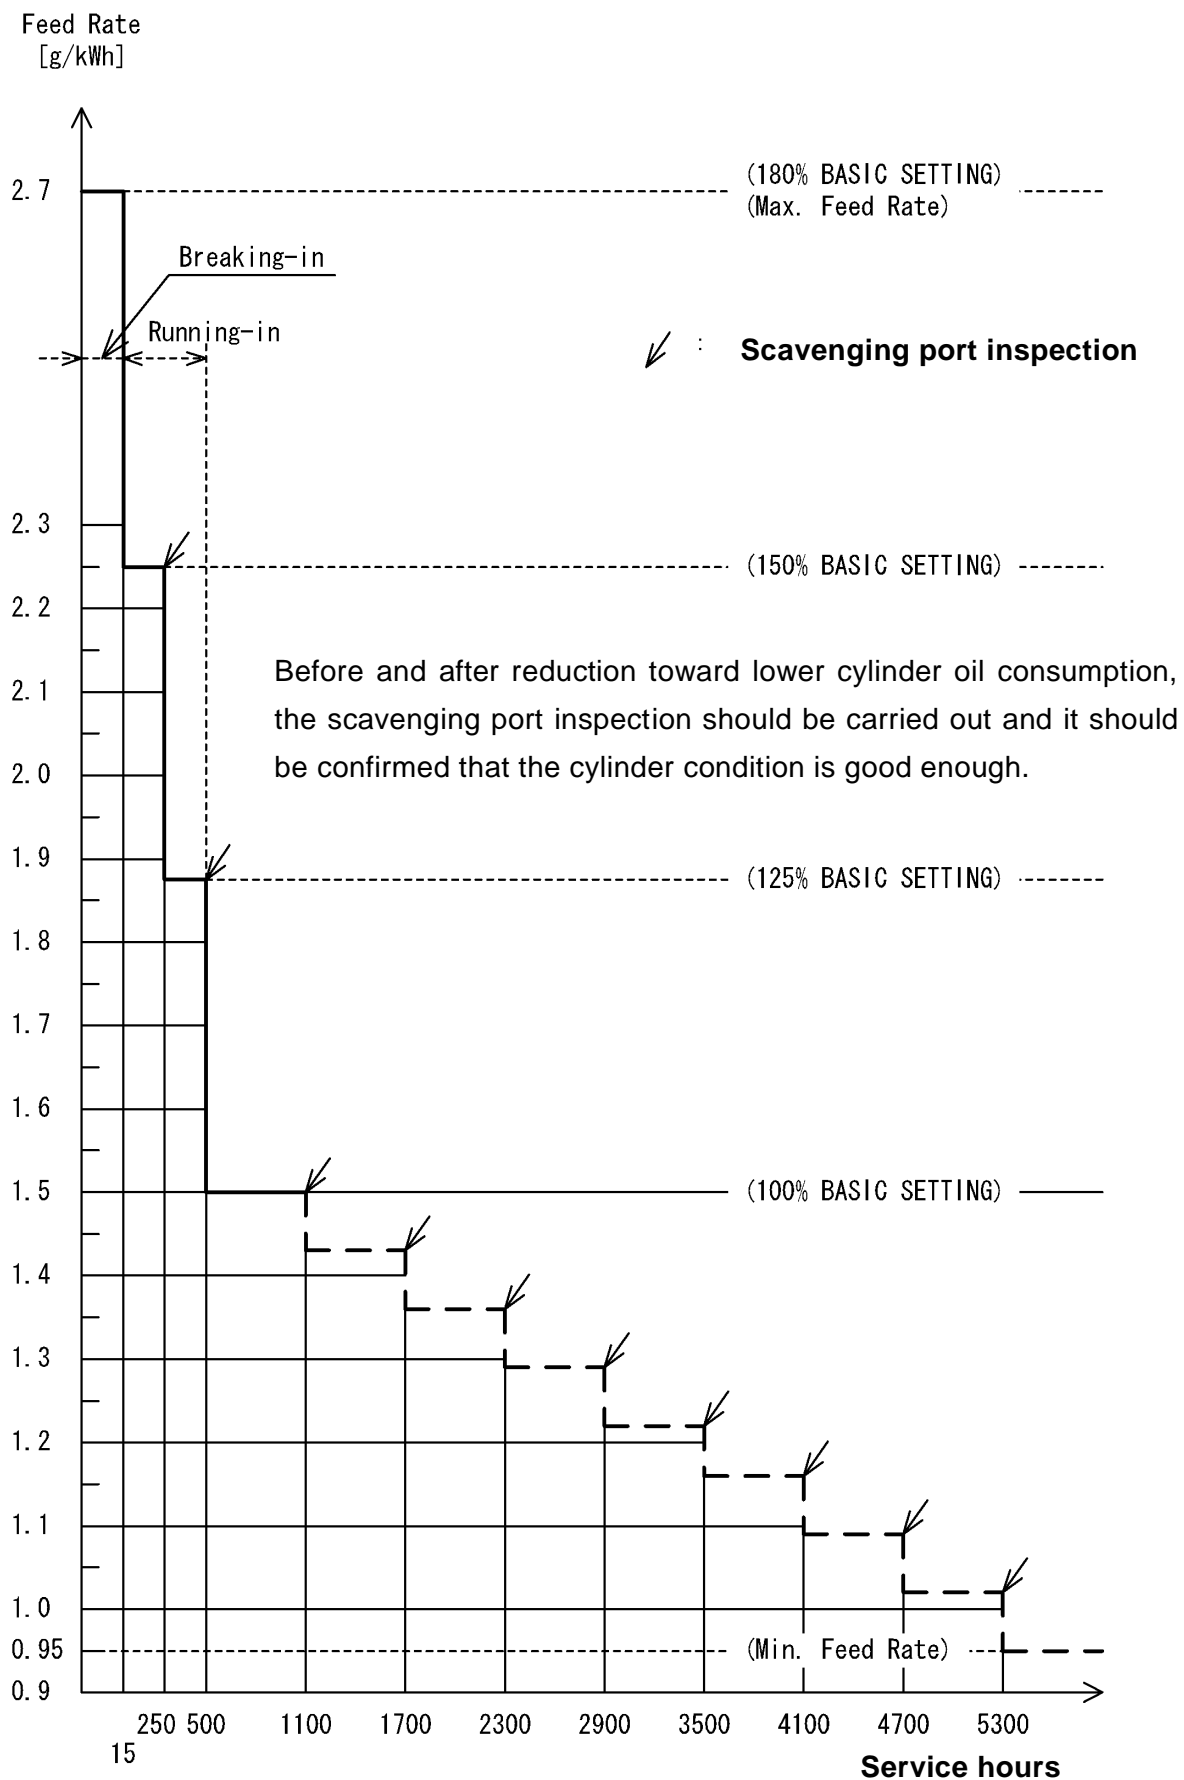
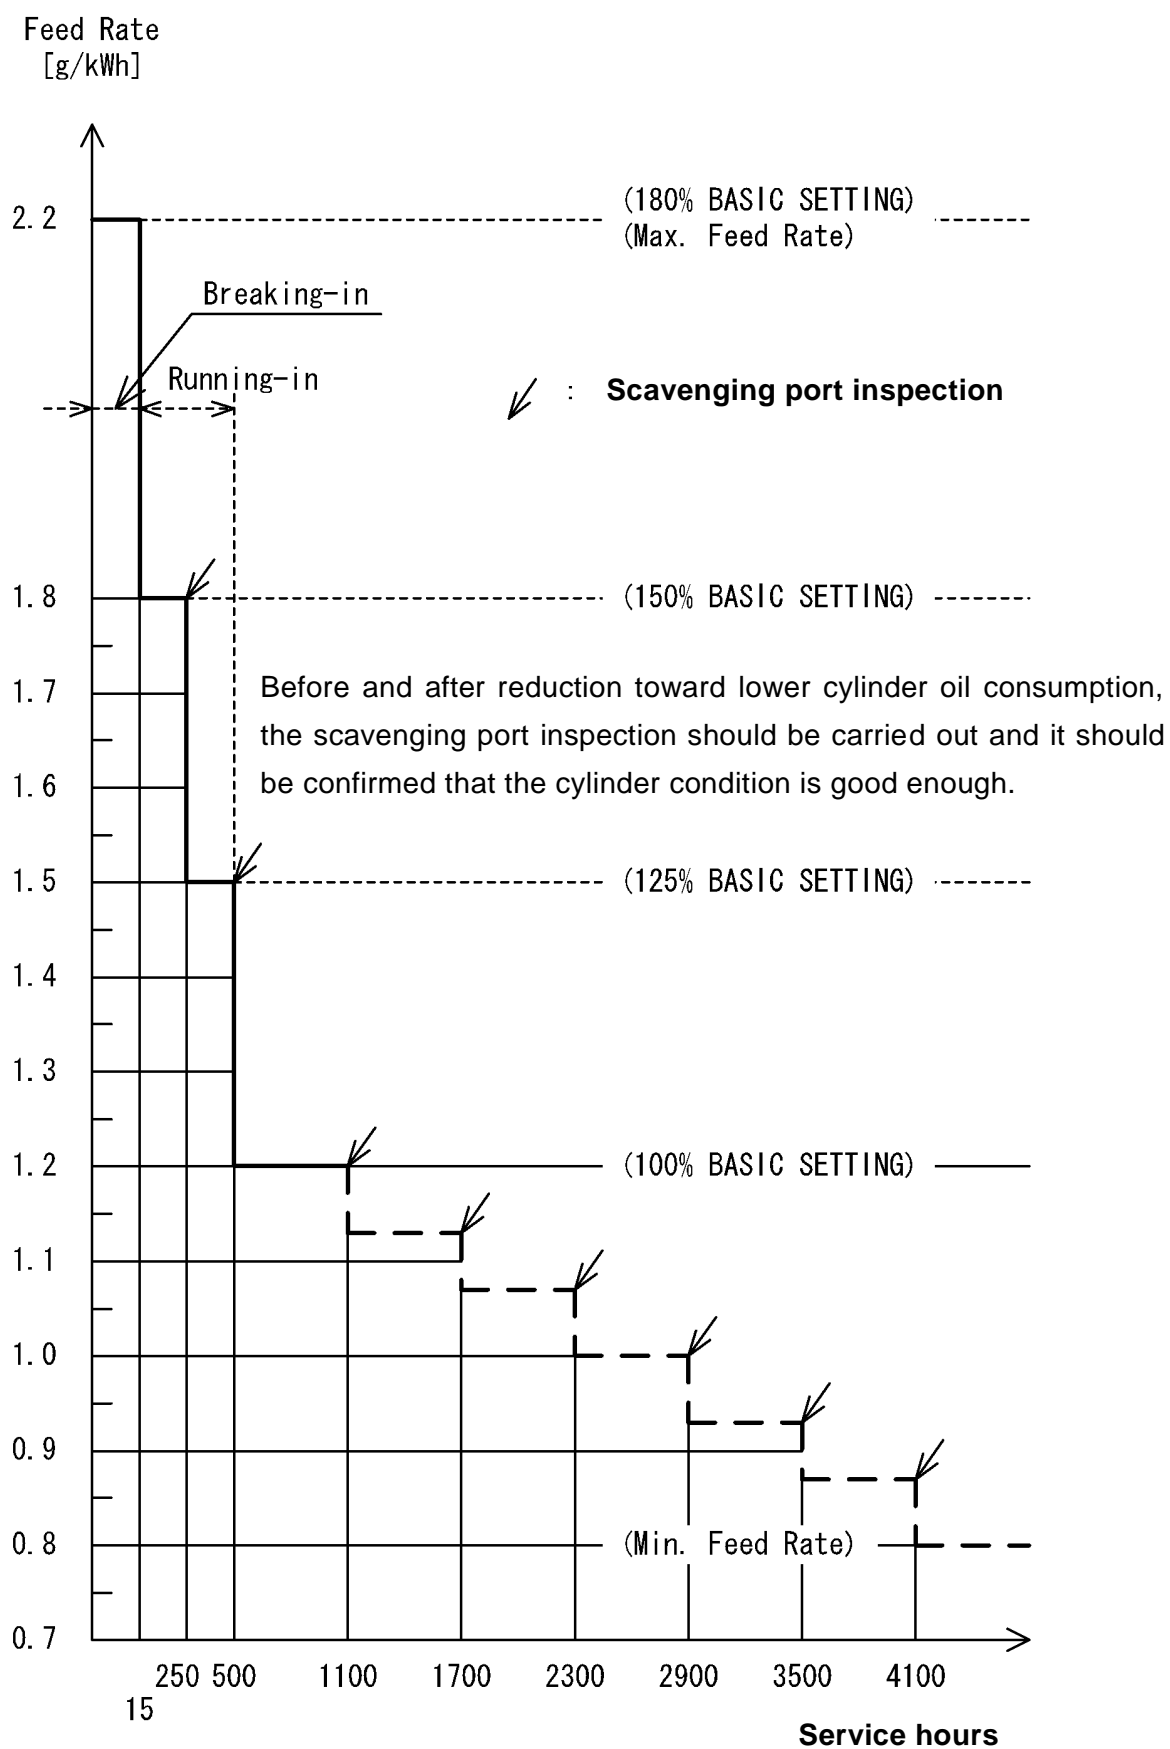
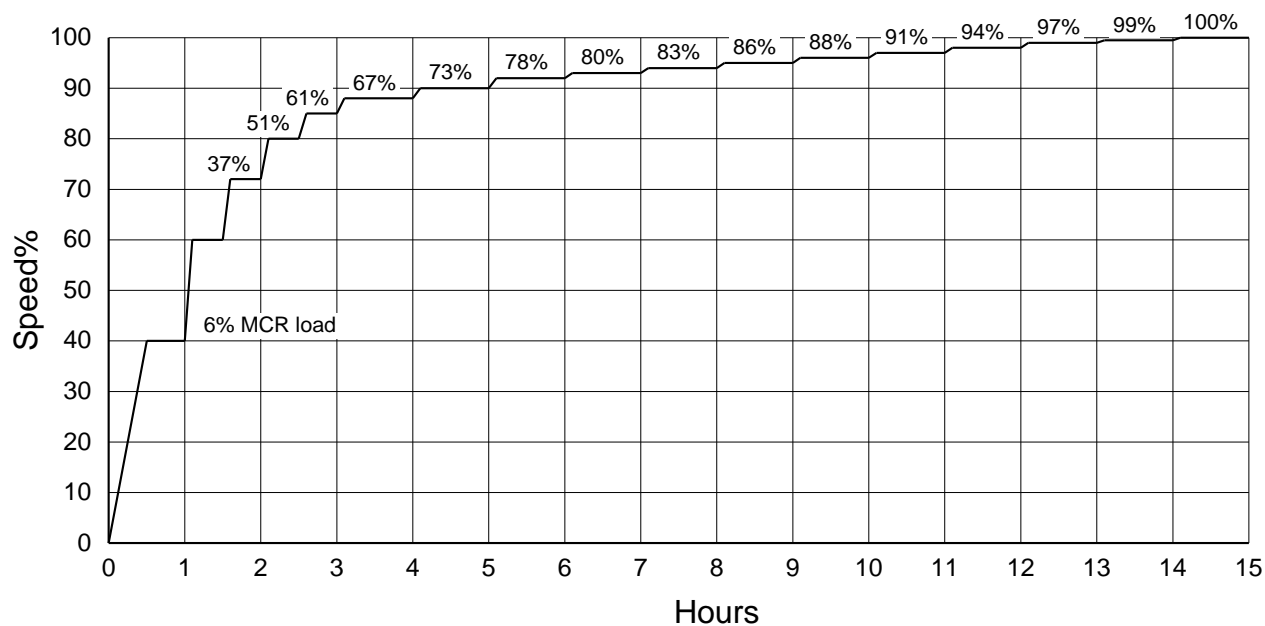

Fig 2: Guidance schedule of cylinder oil consumption adjustment
Fig 3: Guidance schedule of cylinder oil consumption adjustment
Fig 5: Breaking –in schedule recommendation
The BASIC SETTING and Minimum Feed Rate (Min. Feed Rate) are shown in Table 2-1, Table 2-2 and Table 2-3. The guidance of the cylinder oil consumption and running-in schedule are shown in Fig.1, Fig.2, Fig.3 and to Fig.4. As the figure of the guidance is only guidance, the actual reduction schedule and cylinder oil feed rate should be adjusted based on actual cylinder condition.
Until 500 service hours is running-in period. We would recommend to adjust cylinder oil feed rate according to Guidance schedule of cylinder oil consumption adjustment as shown in Fig.1, Fig.2, Fig.3 and Fig.4.
After maintenance for new piston ring or new cylinder liner, cylinder oil feed rate during running -in should be follow as shown in Fig.1, Fig.2, Fig.3 and Fig.4. The load on during breaking -in period should be increased carefully as shown in Fig. 5.
Cylinder oil feed rate can be adjusted in steps at intervals of 600 hours as shown in Fig.1, Fig.2, Fig.3 and Fig.4.
- Basic Feed Rate Factor can be reduce gradually as shown in Fig.1, Fig.2, Fig.3 and Fig.4. However, before and after adjusting the Basic Feed Rate, the scavenge port inspection should be carried out and the cylinder condition should be proved satisfactory.